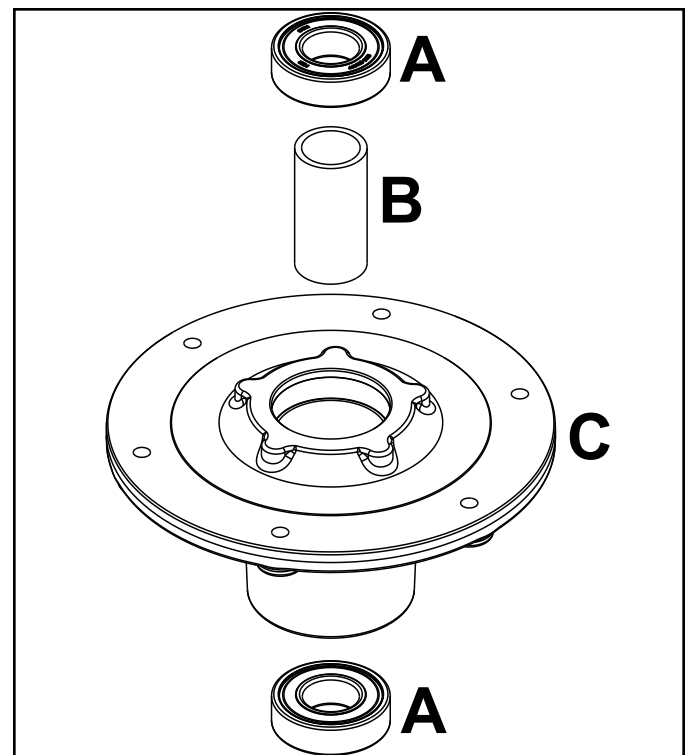

Fig. 115
5. Install spindle shaft (D) into spindle housing.
7. If necessary, install the deck onto the frame. (Fig. 115)